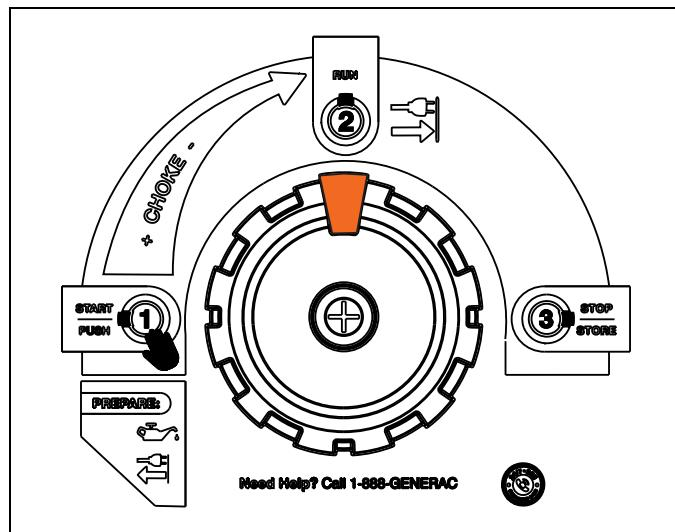

Figure 3-3. PowerDial RUN Position
3. See Figure 3-3. When the engine starts, rotate the PowerDial gradually clockwise, until the engine runs smoothly, and then fully to the RUN position. Choke operation is reduced as the Power Dial is rotated towards the RUN position. If engine falters, rotate the PowerDial counterclockwise to the START position, to increase the choke, until the engine runs smoothly and then rotate it to the RUN position.